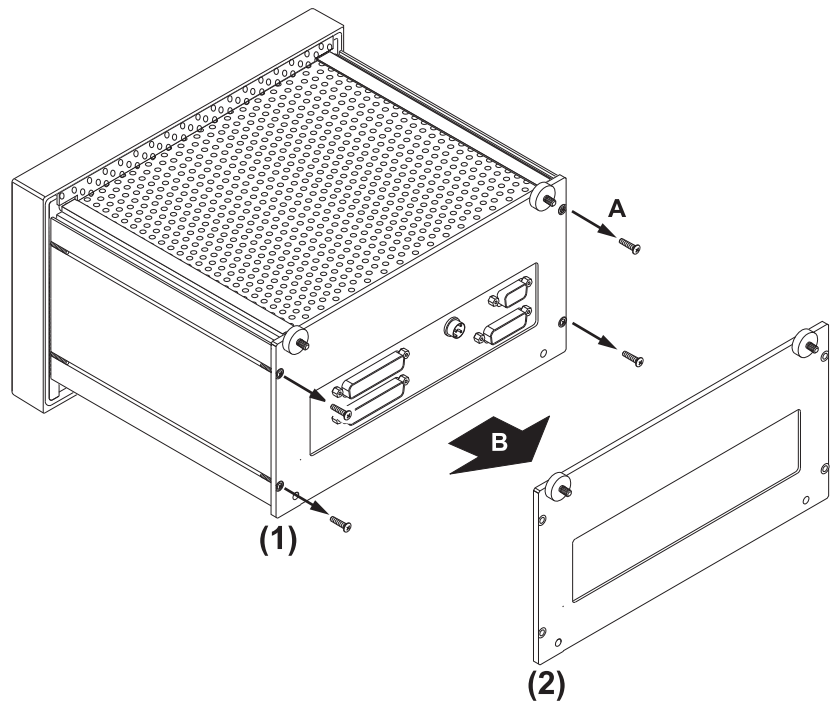

Fig. E 7-14: Removing the backplane cover
4. Loose the four screws on the rear side. Open the backplane cover and remove it. Store screws and metal plate. (Fig. E 7-14)